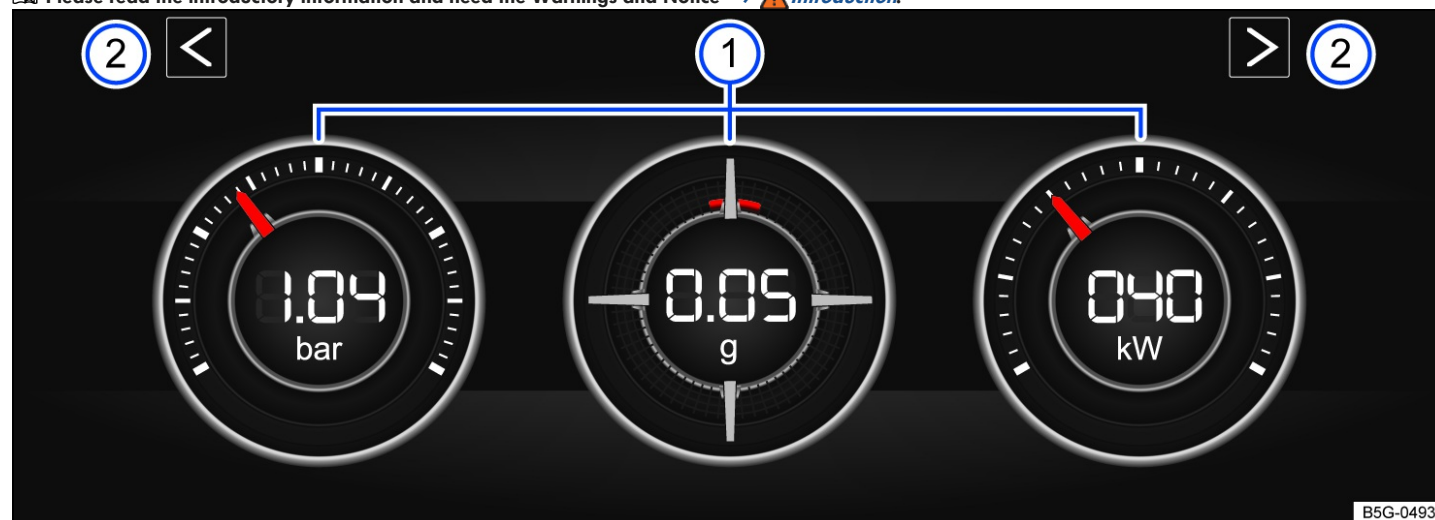

Fig. 18 On the Infotainment system screen: performance monitor.
Key for *fig. 18*:
If you want to switch between the performance monitor and the lap timer ⇒ *Lap timer*, tap one of the left or right arrow buttons above the instruments *fig. 18* ②.
The display can show a maximum of three instruments at the same time. Every instrument can be selected for any display area *fig. 18* ① (left, center, right).
- **Boost pressure indicator:** the boost pressure indicator *fig. 18* ① (left) displays the boost pressure between the turbocharger and the engine (in “bar”). The farther to the right that the needle on the scale is, the more engine power is being used.
- **Accelerometer (G meter):** the accelerometer (G meter) *fig. 18* ① (center) displays the acceleration value in the center area (in “g”). The red marking in the tab area shows the intensity of the acceleration and the direction of the force that is in effect (contrary to the physical laws). For example, if you drive to the left the red marking will move in the right area of the instrument (and vice versa). When accelerating, the red marking will move downward. When braking, the red marking will move upward. The intensity of acceleration is indicated by the position of the red marking from the inside to the outside. If you accelerate faster, the
- **Power gauge:** the power gauge fig. 18 ① (right) shows the engine power that is being currently used as a digital value displayed on the surrounding scale (in kW).